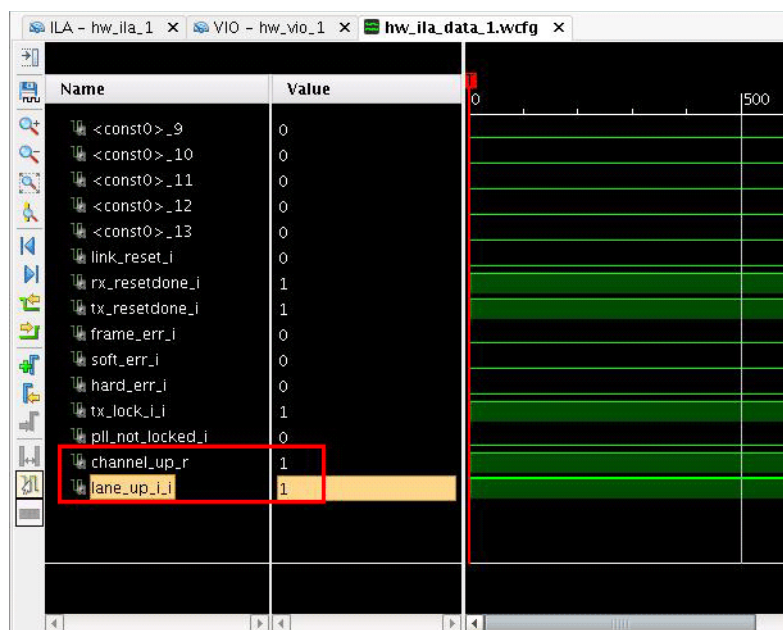

Figure 36: Four Lane HW-ILA Waveform with Reset
3. Click the waveform display tab and observe the results of the reset signal shown in Figure 36.